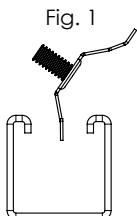

Fig. 1
- Fig. 1: Insert double tab end of clip between edges of channel.